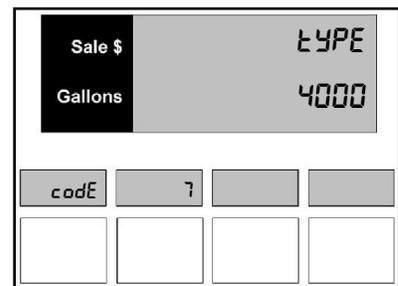

Figure 7.1 - Type
1. Press the **7** button and then the **Mode** button on the keypad. The number 7 appears in the PPV display and the type appears in the main display. The default setting is for 1000 as shown in *Figure 7.1*.